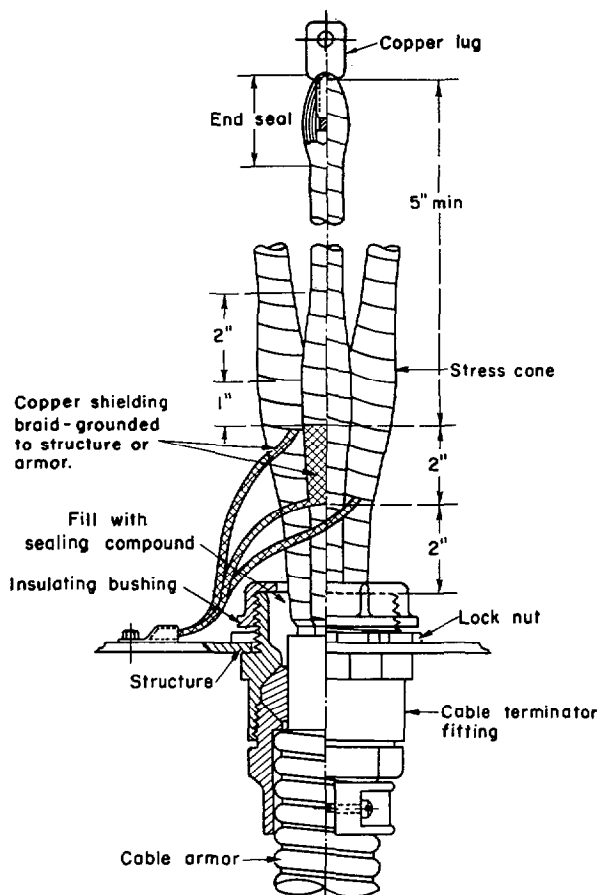

Fig. 72. Termination of interlocked-armor, shielded, 5000-volt cable.
3. Proceed to build stress cones as prescribed by the cable manufacturer. Refer to Fig. 72 and 73 for details.